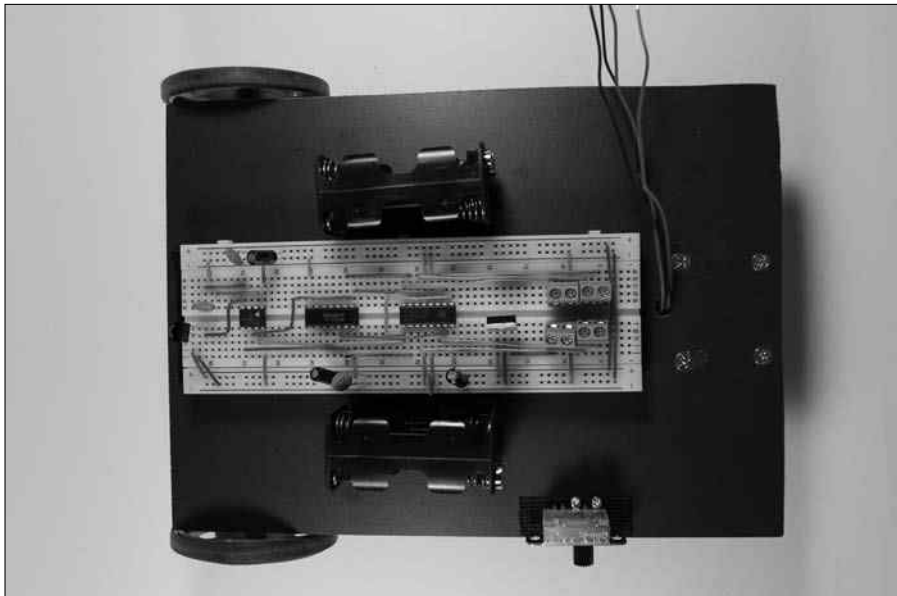

Figure 11-39:
11. Stick Velcro to the base of the kart and attach the battery packs, switches, and breadboard to the top of the base, as shown in Figure 11-39.